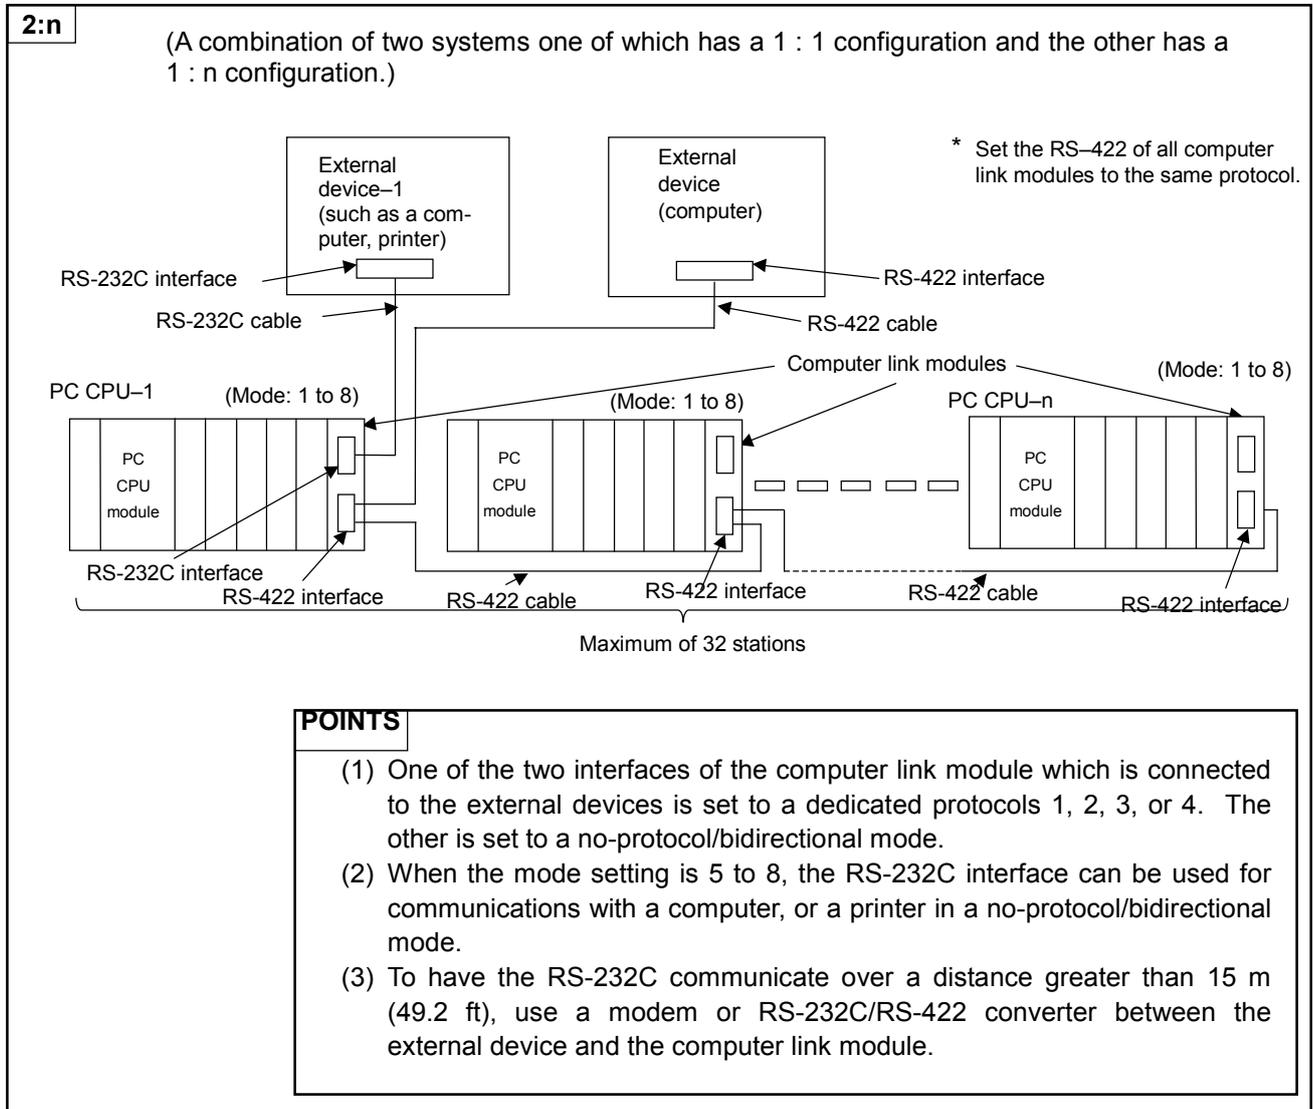

Fig. 2.4 System Configurations (IV)
- (1) The system configuration for a 2 : n (up to 32 stations) ratio of external devices (such as a computer and a printer) to PC CPUs is shown in Fig. 2.4 below.
* 1 : Data communications are possible only with the system which has a 1 : 1 configuration (external device-1 to PC CPU-1, as shown in Fig. 2.4).
* 1 : If full-duplex transmission is possible with the external device, data communications in the no-protocol mode are possible with the system which has the 1 : n configuration (external device-2 to PC CPUs, as shown in Fig. 2.4).